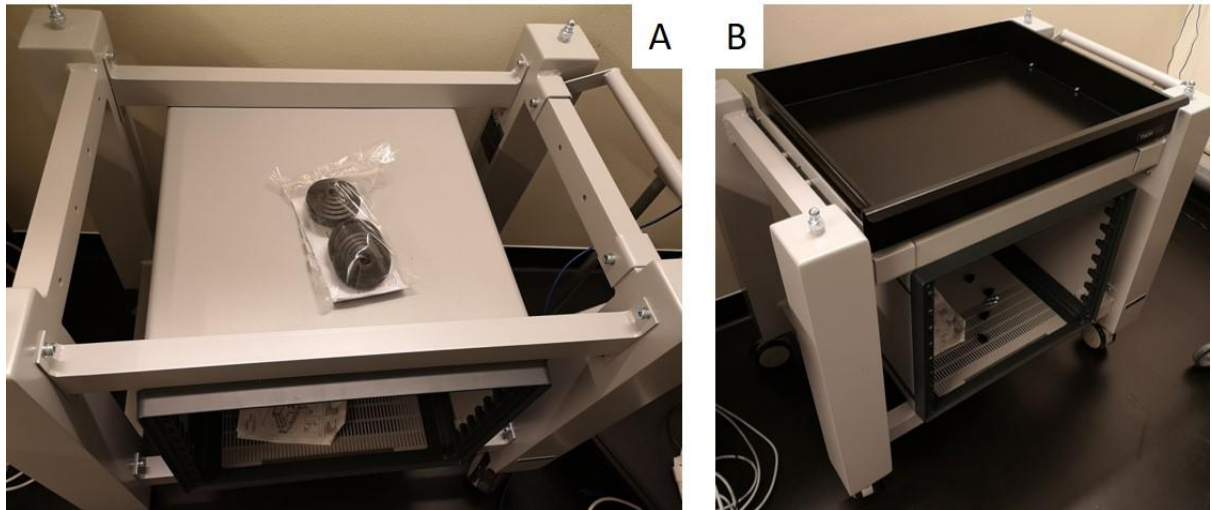

Figure 33: Top view of Rack inserted into Mobile Cart (A) and Drawer mounted on top (B).
Step1. Lock the casters to assemble the Mobile Cart (item 83) without moving it.
Step2. Mount a 19-inch Rack (item 86) following supplier instructions (see Protocol S1).
Step3. Remove the frontal frame from the Mobile Cart and insert the Rack positioned on the bottom frames as shown in Fig.33-A.